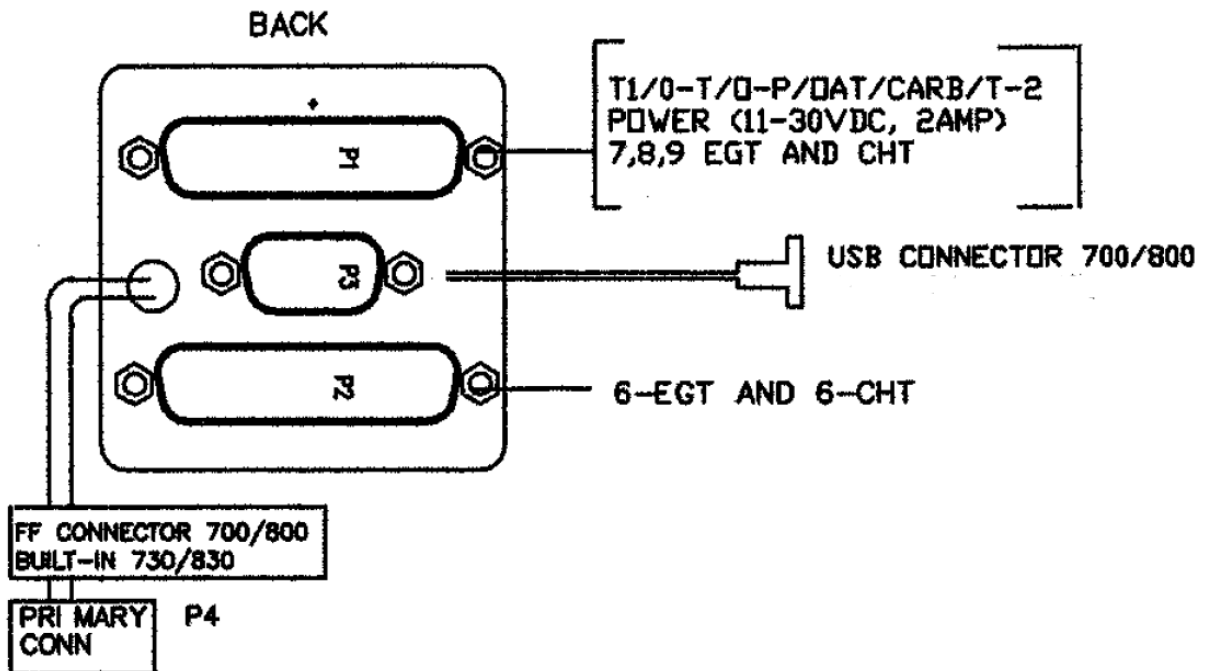

Figure 1 – Rear view of rear indicator
2. Check the back of the EDM 800 to see if there is a USB connector tail exiting the rear of the indicator case. Refer to Figure 1.